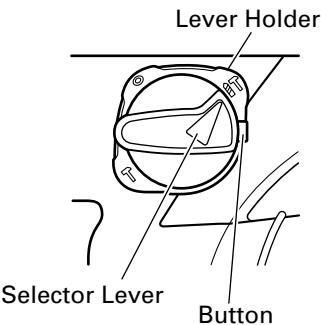

Fig. 6
- Align ▲ of the selector lever and IT of the lever holder as illustrated in Fig. 6.